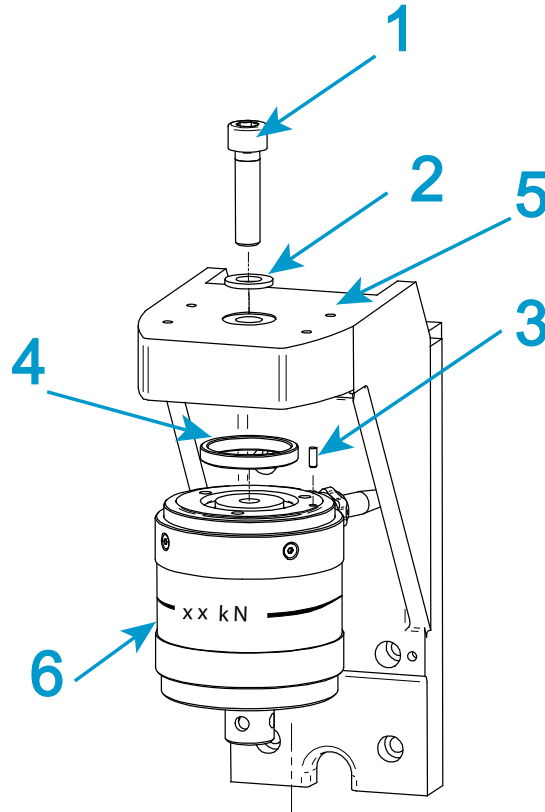

Figure 16. Install a 2580 series load cell - capacities 500 N through 5 kN
Legend for Figure 16
1. Refer to Figure 16 on page 84 and its associated legend.